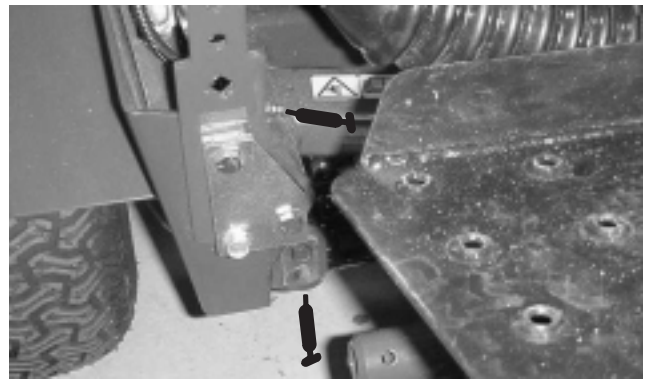

Figure 40
The traction unit bearings and bushings that must be lubricated are: steering column (Fig. 38), steering gears (2) (under the skirt below the steering sector), steering shaft (2) (Fig. 39), lift arms (3) (Fig. 40), rear lift cylinder pivot (Fig. 40), pivot rods (3) (Fig. 41), traction pedal pivot (Fig. 42) and neutral centering (Fig. 43)